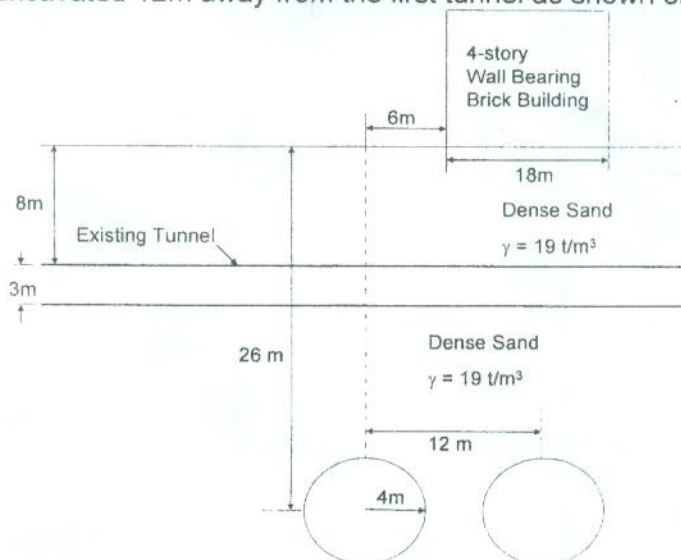

Figure 7
g) Settlement at both edges of the structure if a second tunnel (same depth and same diameter) is excavated 12m away from the first tunnel as shown on Figure 7.